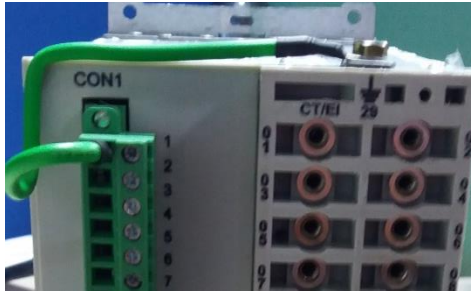

Figure 3: Grounding wire connection
3. Ensure to install the grounding wire (shipped with the F-PRO 116) between the case grounding terminal 29 of SLOT 2 and terminal 1 of CON1, as shown in Figure 3.